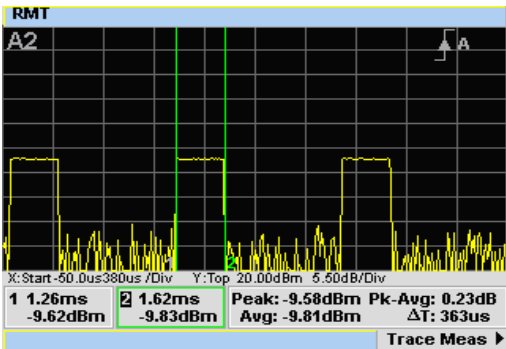

Figure 10. Gate Control display in full screen
- Press **Gate Meas**, or press  twice. See Figure 10.